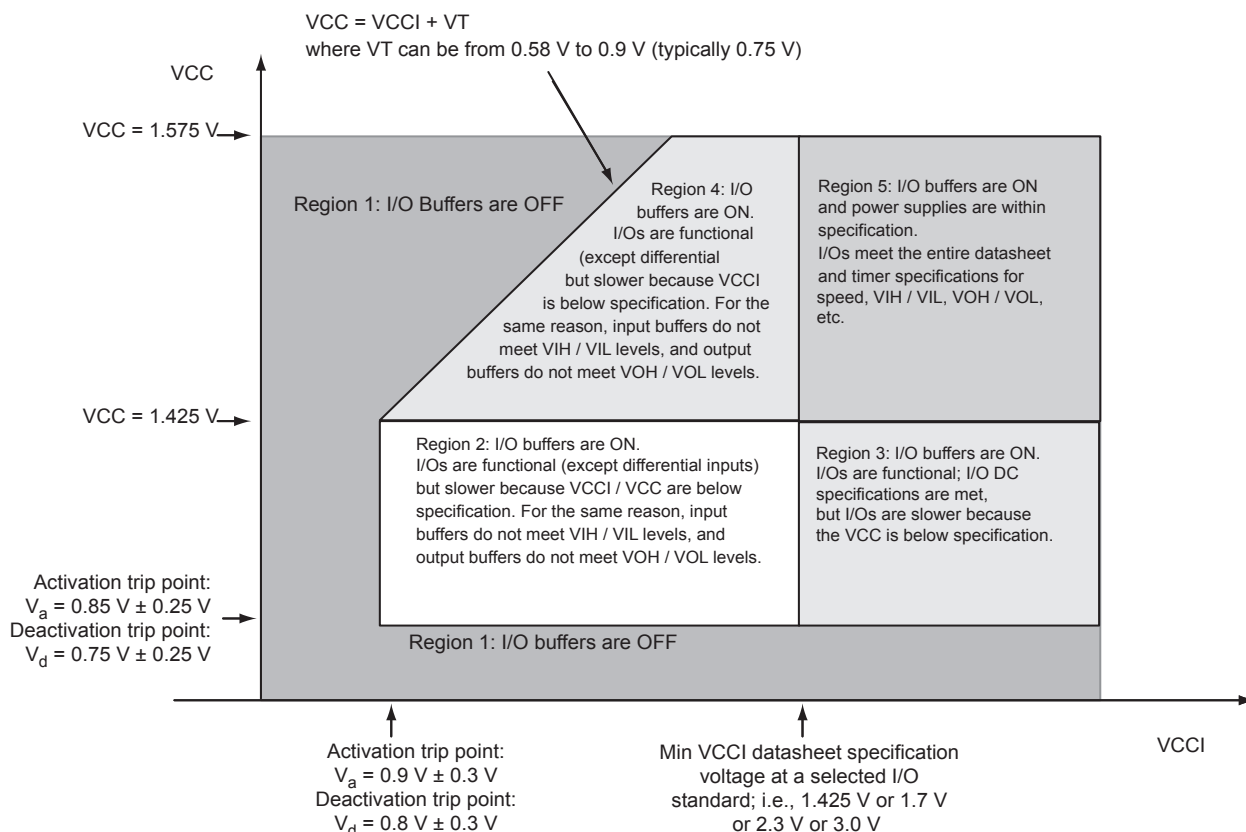

Figure 2-1 • Devices Operating at 1.5 V Core – I/O State as a Function of VCCI and VCC Voltage Levels
Sophisticated power-up management circuitry is designed into every ProASIC[®]3 device. These circuits ensure easy transition from the powered-off state to the powered-up state of the device. The many different supplies can power up in any sequence with minimized current spikes or surges. In addition, the I/O will be in a known state through the power-up sequence. The basic principle is shown in Figure 2-1 on page 2-4 and Figure 2-2 on page 2-5.
1. VCC and VCCI are above the minimum specified trip points (Figure 2-1 on page 2-4 and Figure 2-2 on page 2-5).
Microsemi recommends using monotonic power supplies or voltage regulators to ensure proper power-up behavior. Power ramp-up should be monotonic, at least until VCC and VCCPLX exceed brownout activation levels. The VCC activation level is specified as 1.1 V worst-case (see Figure 2-1 and Figure 2-2 on page 2-5 for more details).